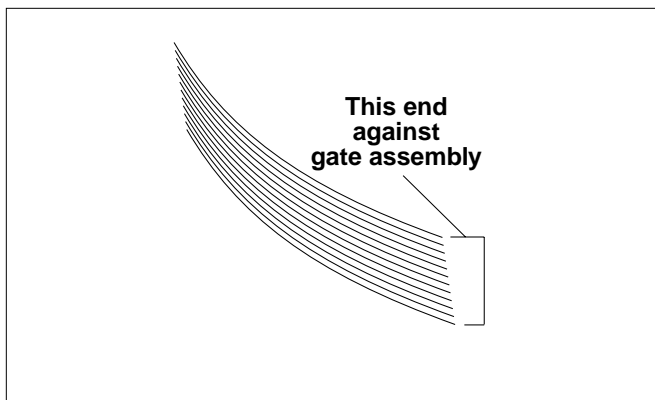
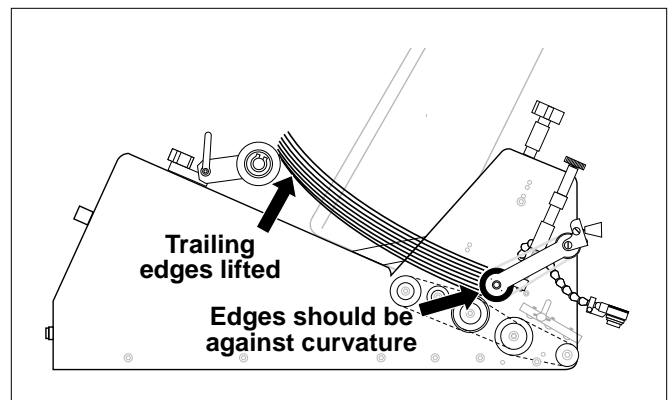

Figure 4-1. Preshingling of First Stack
Figure 4-2. Leading Edges Against Gate Bracket Assembly and Side Guides
1. Start by preshingling by hand a small stack of material (Figure 4-1) so that it conforms to the curvature of the gate assembly. Push in gently to make sure lead edges touch the gate bracket assembly and front edges of the hopper guides (Figure 4-2).
2. At the back wedge, notice how it helps lift the trailing edges of the material off the table top and feed belts. Also notice how the lifting helps to push the preshingled edges against the curvature of the gate assembly (Figure 4-2).